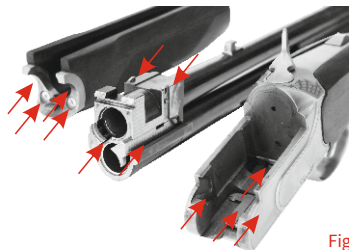

Fig.3
2. Apply a small amount of high quality lubricant to all surfaces on both sides marked with red arrow in (Fig.3).